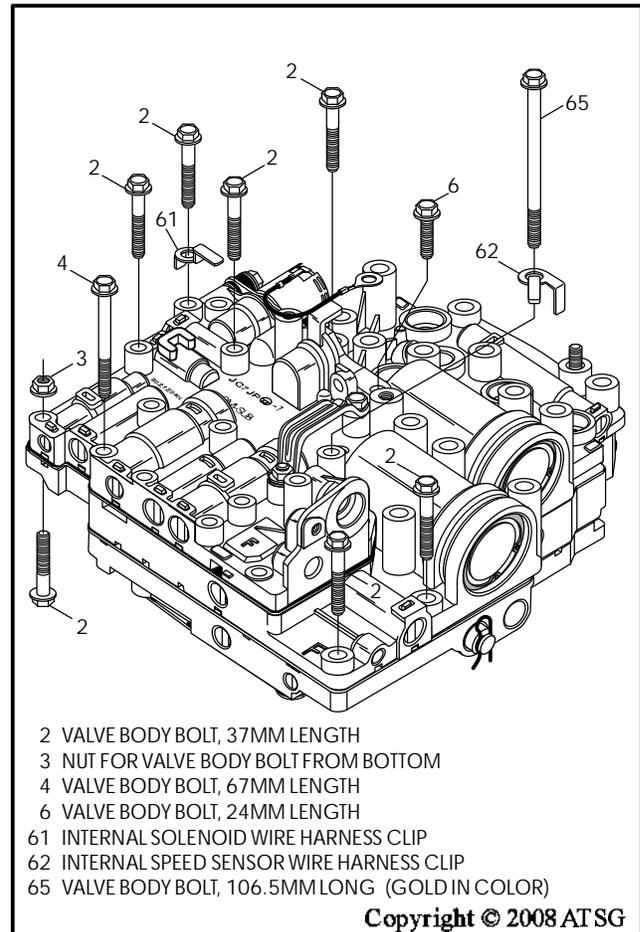

Figure 175
45. Install a 37mm bolt (2), from the bottom, in the lower left side of the valve body, as shown in Figure 175, install nut (3) and hand tighten only at this time.
46. Install six 37mm bolts (2), in locations shown in Figure 175, and hand tighten only.
47. Install one 24mm bolt (6), in location shown in Figure 175, and hand tighten only.
48. Install one 67mm bolt (4), in location shown Figure 175, and hand tighten only.
49. Install the 106.5mm bolt (65), along with the wire harness retainer (62), in location shown Figure 175, and hand tighten only.